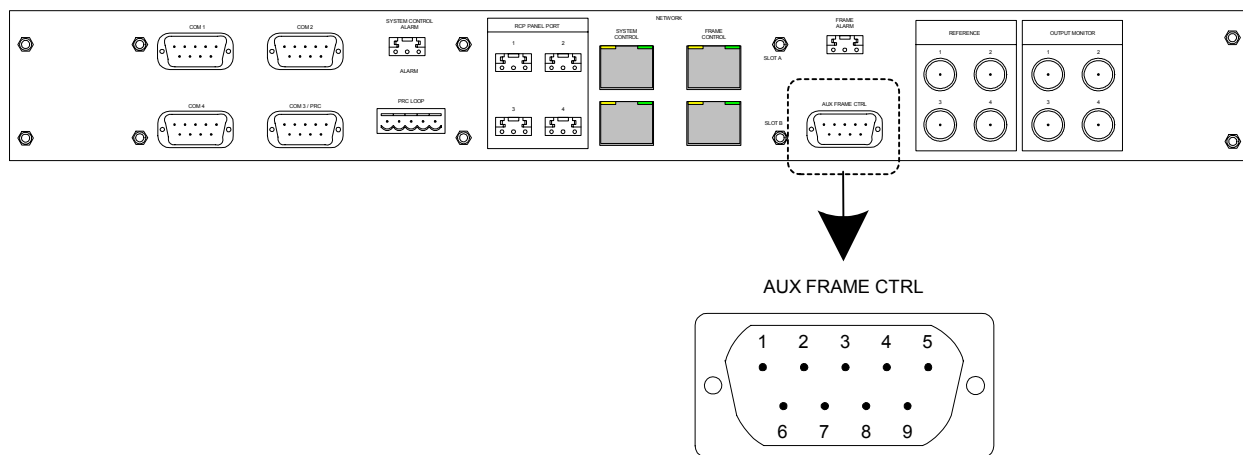

Figure 29. Aux Frame Control Connector
9. If SNMP management of additional Cheetah Switchers are to be utilized, connect the switchers using 9-pin RS-422 cables to the Aux Frame Ctrl connector as shown in Figure 29 on page 31.